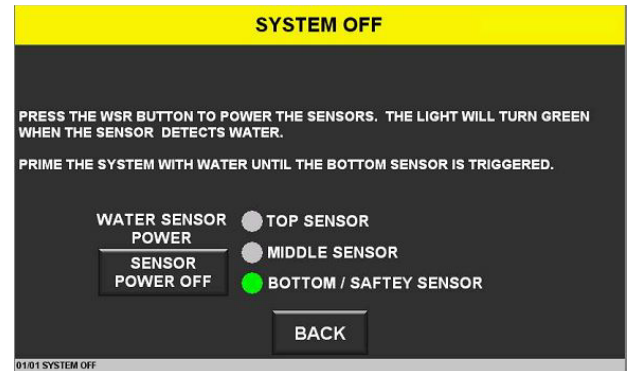

Figure 36: Test Water Sensor Screen
18. From the HMI select **MENU>SYSTEM SETUP>TEST WATER SENSORS**. (See Figure 36)